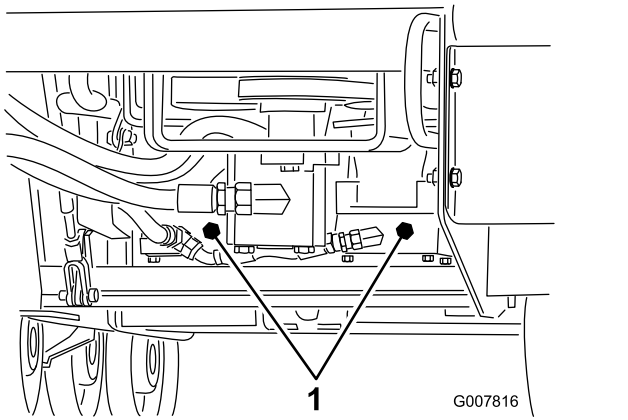

Figure 17
4. Using a wrench, turn the tow valves on the hydraulic pumps twice counter-clockwise (Figure 17).